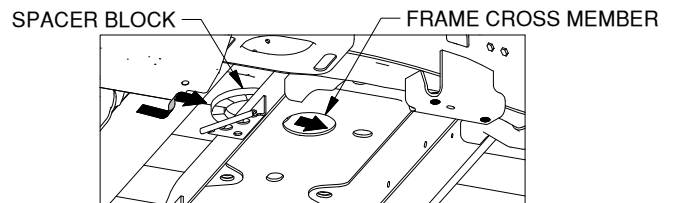

Figure B1: Looking up at bed from forward of the driver side tire.
1. **Place spacer block.** Position the plastic spacer block between the frame cross member and the bed as shown. See Figure B1. Center the hole in the spacer block over the hole in the frame.